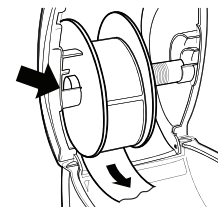

Figure 3
Figures 3 and 4 in this section show loading labels in a LabelWriter 450 printer. However, the instructions apply to loading labels in any LabelWriter printer model.
- 6 Insert the label spool into the slot in the printer cover with the labels extending from underneath the roll. See Figure 3.